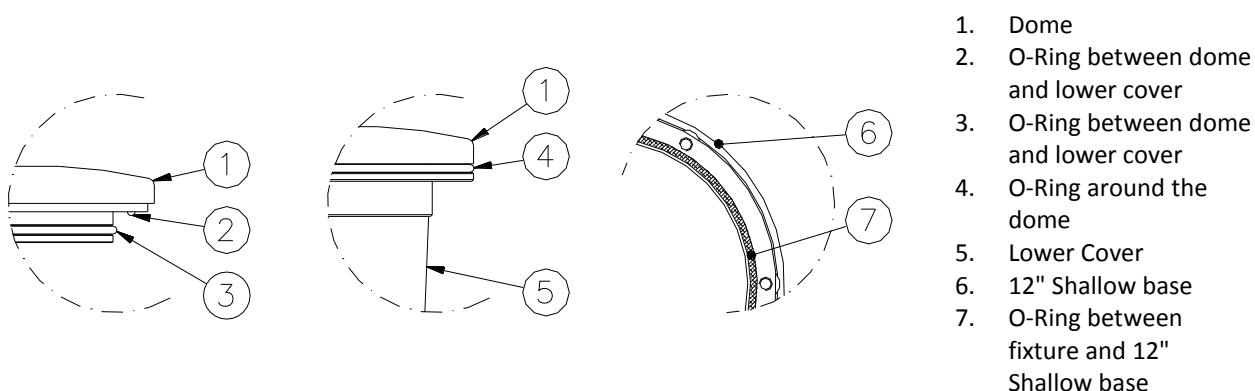

Figure 23– Fixture Gaskets
- two O-Ring between dome and lower cover (Figure 23 - n°2 and 3);
- O-Ring around the dome (Figure 23 - n°3);
- O-Ring between fixture and 12" shallow base (Figure 23 - n°7);